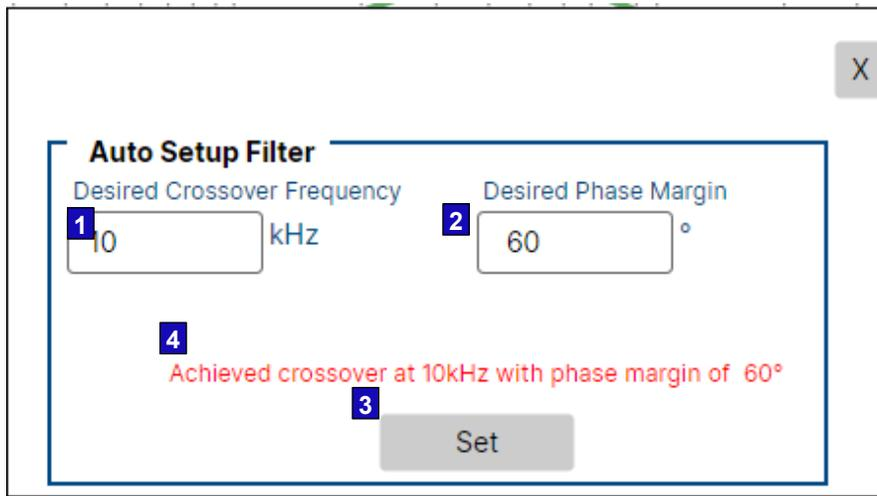

Figure 21. Auto Setup Filter Dialog Box
**Table 20. Figure 21 Callouts**